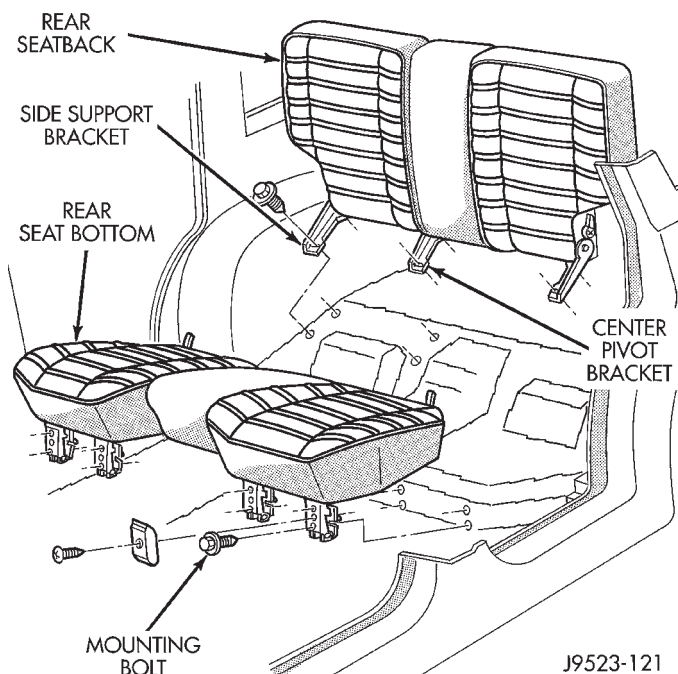

Fig. 51 Rear Seat Mounting
- (1) Remove lower seat cushion. Refer to removal procedure.
- (2) Remove bolts holding seatback side support brackets (left side) (Fig. 51).
- (3) Tilt seatback forward, and slide it outboard to detach it from pin on center pivot bracket.
- (4) Remove left side (60%) seatback from vehicle.
- (5) Remove bolts holding seatback side support brackets (right side) (Fig. 51).
- (6) Remove right side (40%) seatback from vehicle.